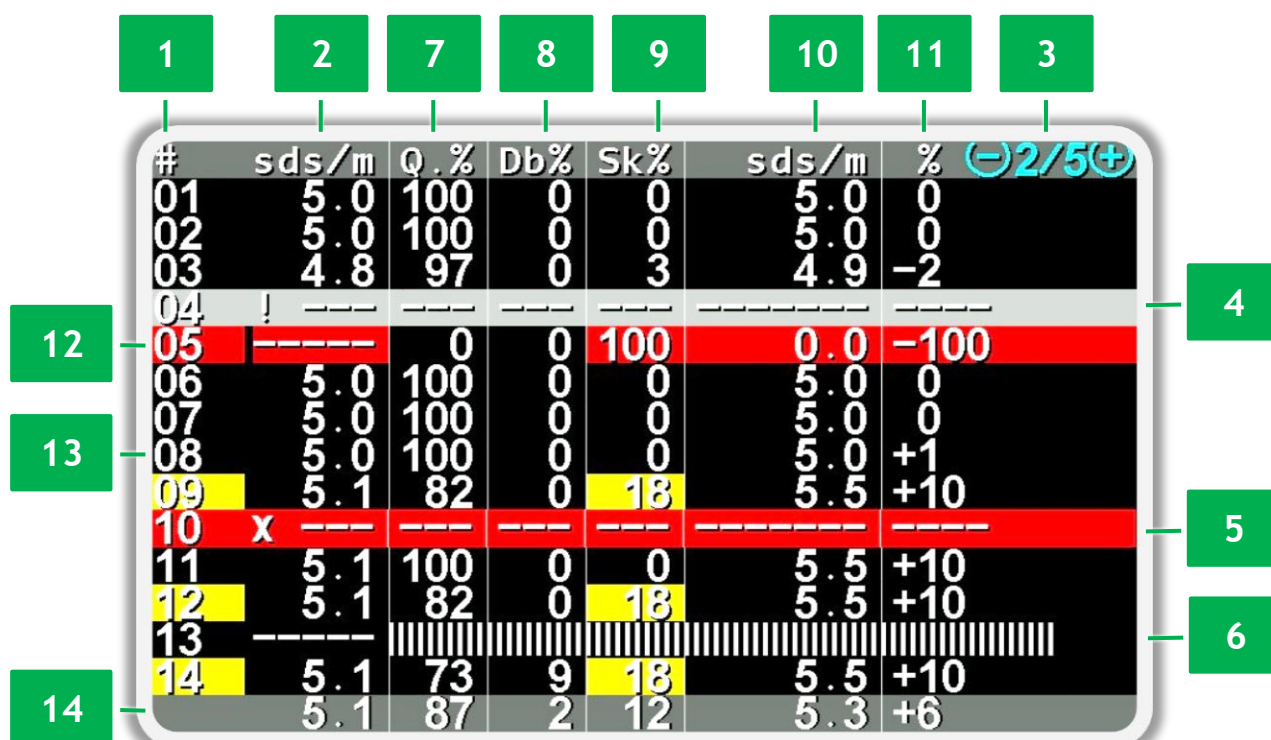
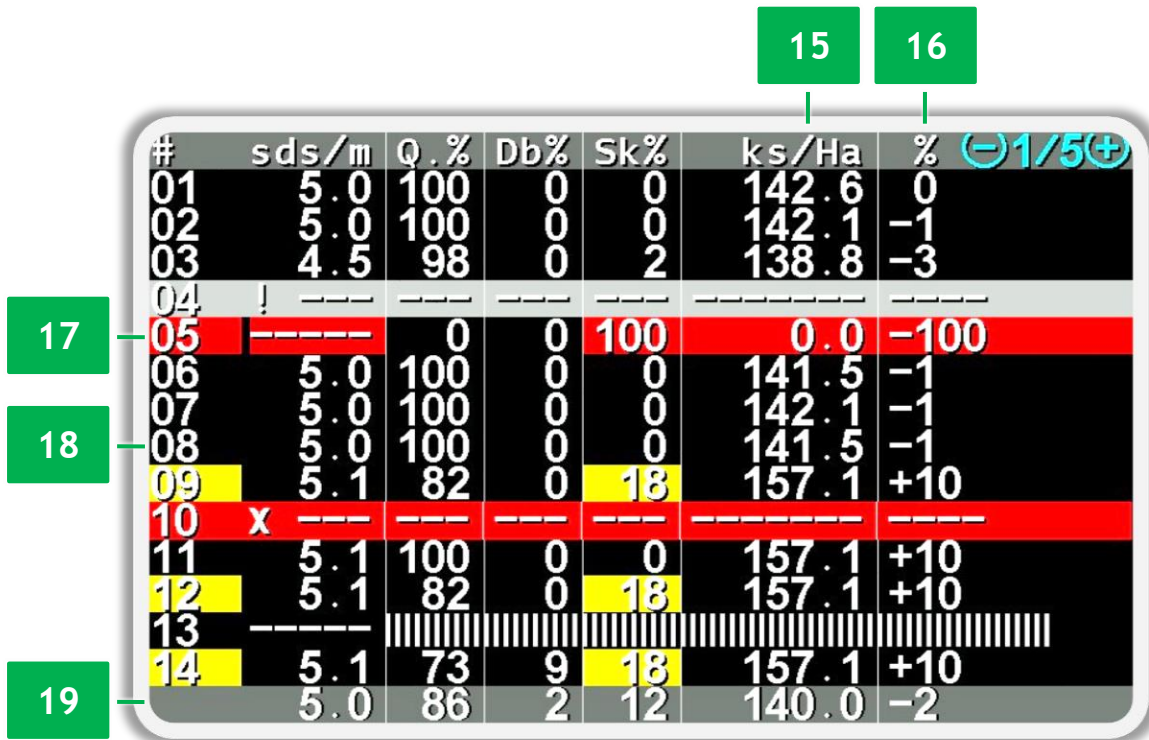

Figure 30 Display of actual rate of seeding in seeds per meter
Figure 31 Display of population rate of seeding in thousands of seeds per hectare
The “Table” screen (see Figure 30) allows you to get more detailed information about the work of the implement in real time, as well as to analyze the quality of work on the last completed path interval of the product application after stopping the system. You can go to this screen by switching between working screens using the  “Home” button (see Figure 18).
- Displaying values of quality and actual rate of seeding in seeds per meter (only for seed control mode “precise”, see Figure 30).
- Displaying values of quality and seeds population in thousands of seeds per hectare (only for seed control mode “precise”, see Figure 31).
In the figures “Figure 30” and “Figure 31”, the data in columns 7, 8, 9, 10, 11, 15, 16 are calculated for each passed path interval of the product application. The data in these columns correspond to the last completely completed path interval of the product application. This data is reset in one of the following cases: